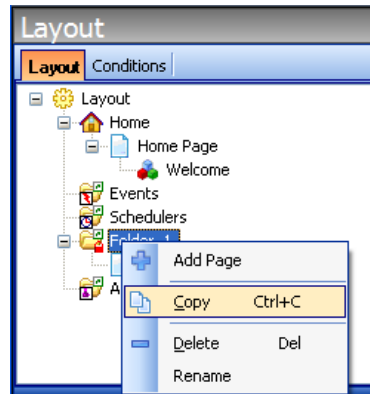

**Figure 147: New Display Folder Added**
3. Enter the name of the folder and click OK. The Layout tree is populated with the new folder and an associated page (Figure 147).